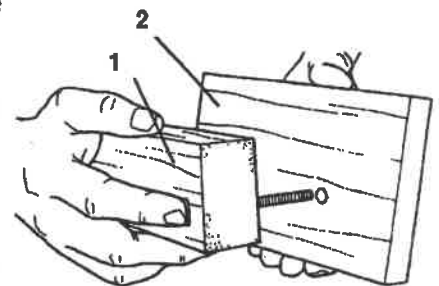
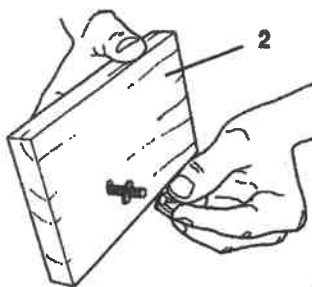

Fig. A-44
Fig. A-45
6. Insert the two machine screws through the slot cut in board 1 and through the holes drilled in board 2, as shown in Fig. A-44. Place flat washers on the screws and secure them with wing nuts, as in Fig. A-45.